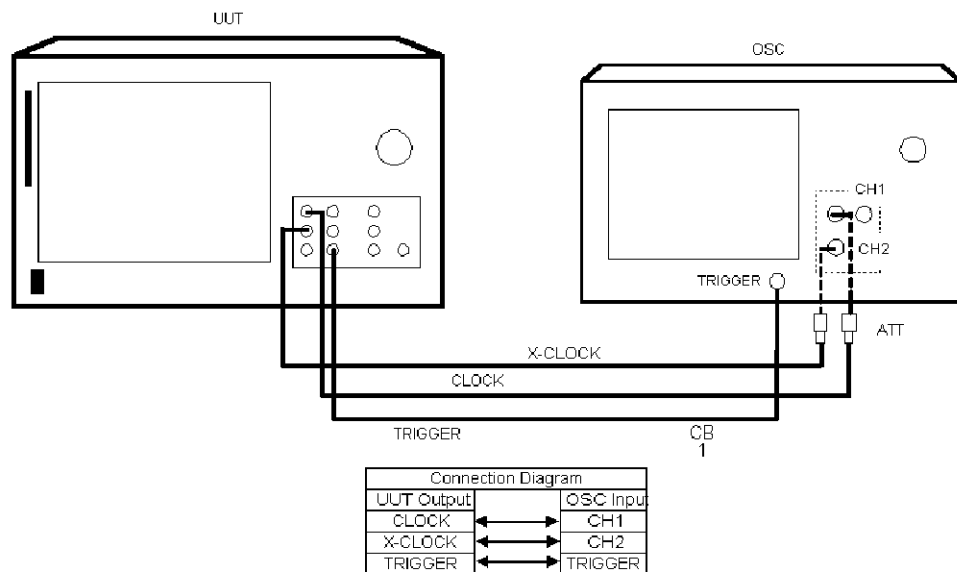

Figure 1-1 Setup of CLOCK/X-CLOCK Output Test
1. Connect equipment as shown in Figure 1-1.